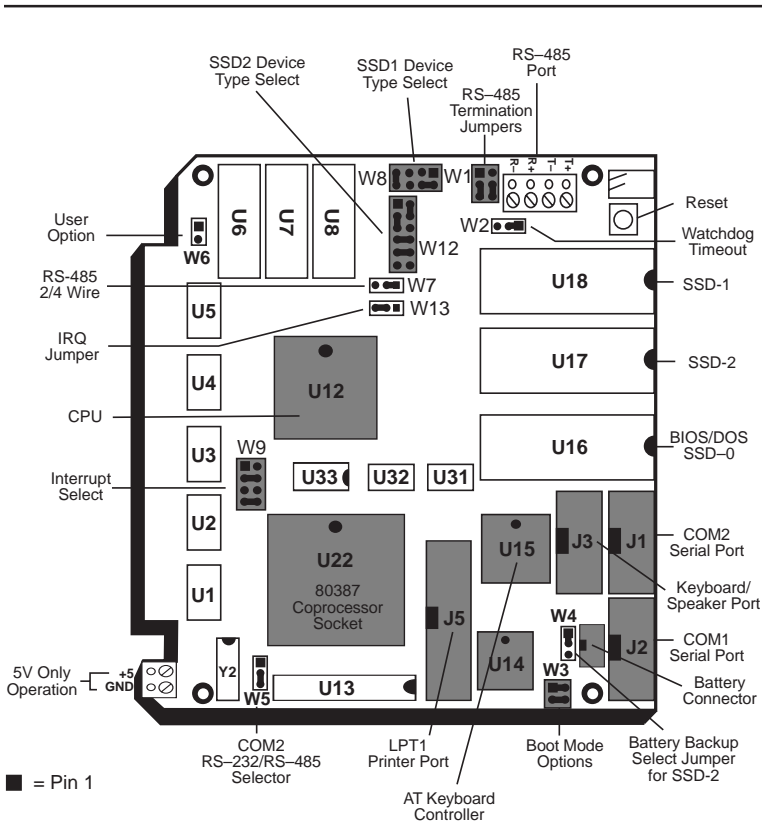

Figure 2-2 – 5025A Component Diagram
If you are panel mounting the 5025A, a screw terminal connector (P2) is provided to supply the 5V power. Refer to Figure 2-2 for the location of various connectors.
1. Please refer to Figure 2-2 for the location of various connectors before installing the 5025A Control Card.